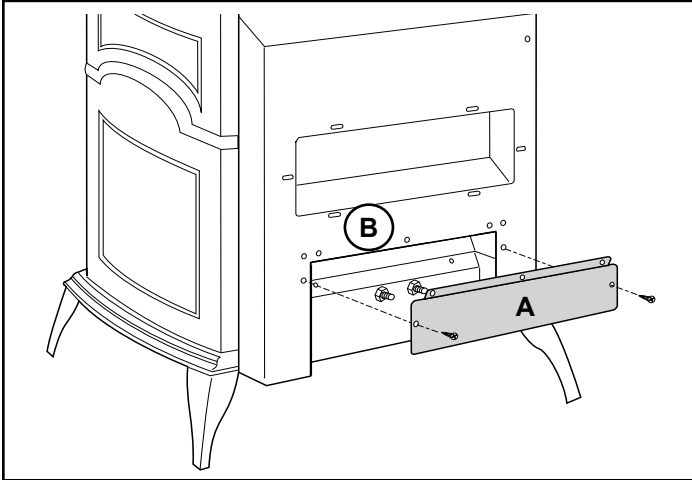
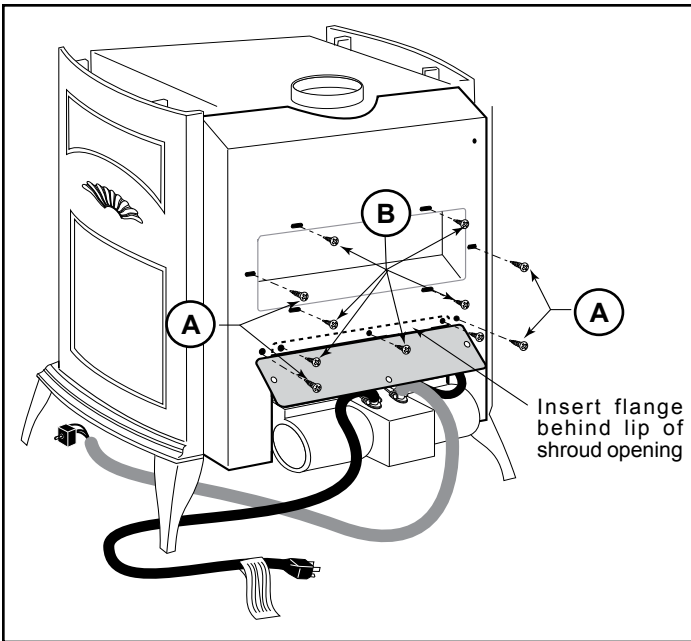

Figure 50 - Remove cover plate (A) from rear shroud, and hex nuts from studs at lower center of rear shroud (B).
Figure 54 - Reattach the cover plate; fasten rear shroud to firebox draft hood assembly if the fan installation is part of first assembly of stove.
1. Remove the cover plate at the bottom of the rear shroud. ('A', Figure 50)
2. Remove the hex nuts from the two mounting studs located at the lower center of the rear shroud. ('B', Figure 50)
5. Use three (3) #10 x 1/2" sheet metal screws to reattach the rear shroud cover plate as shown in Figure 50. If the fan installation is part of the original stove installation, finish securing the shroud to the firebox draft hood assembly using first four (4) #10 x 1" sheet metal screws ('A', Figure 54) and then six (6) #10 x 1/2" sheet metal screws ('B', Figure 54) at the locations shown in Figure 54.